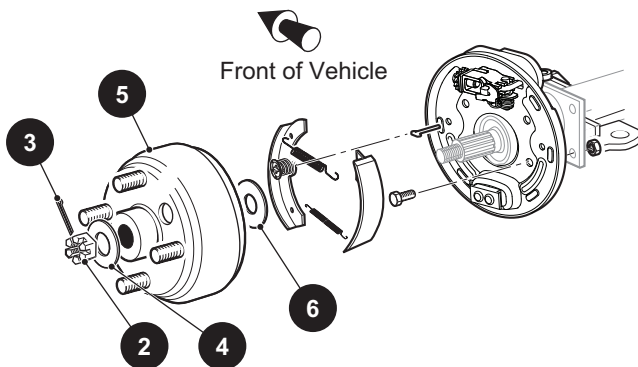

Figure 21 Brake Assembly
Remove the dust cap, to gain access to the castellated nut (2) and cotter pin (3) (Figure 21).
Install the inner brake drum washer (6) and slide the brake drum (5) into place (Figure 21).